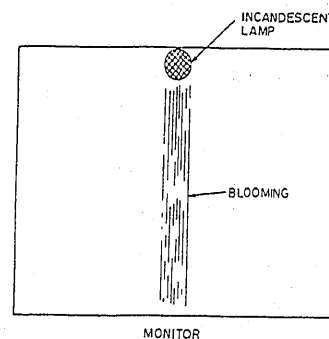

Fig. 4-5
#### 4) Sensor Sub Voltage Adjustment (Figs. 4-5, 4-51)
1. Point the camera at a 40 W to 60 W incandescent lamp one (1) meter away. (See Fig. 4-5)